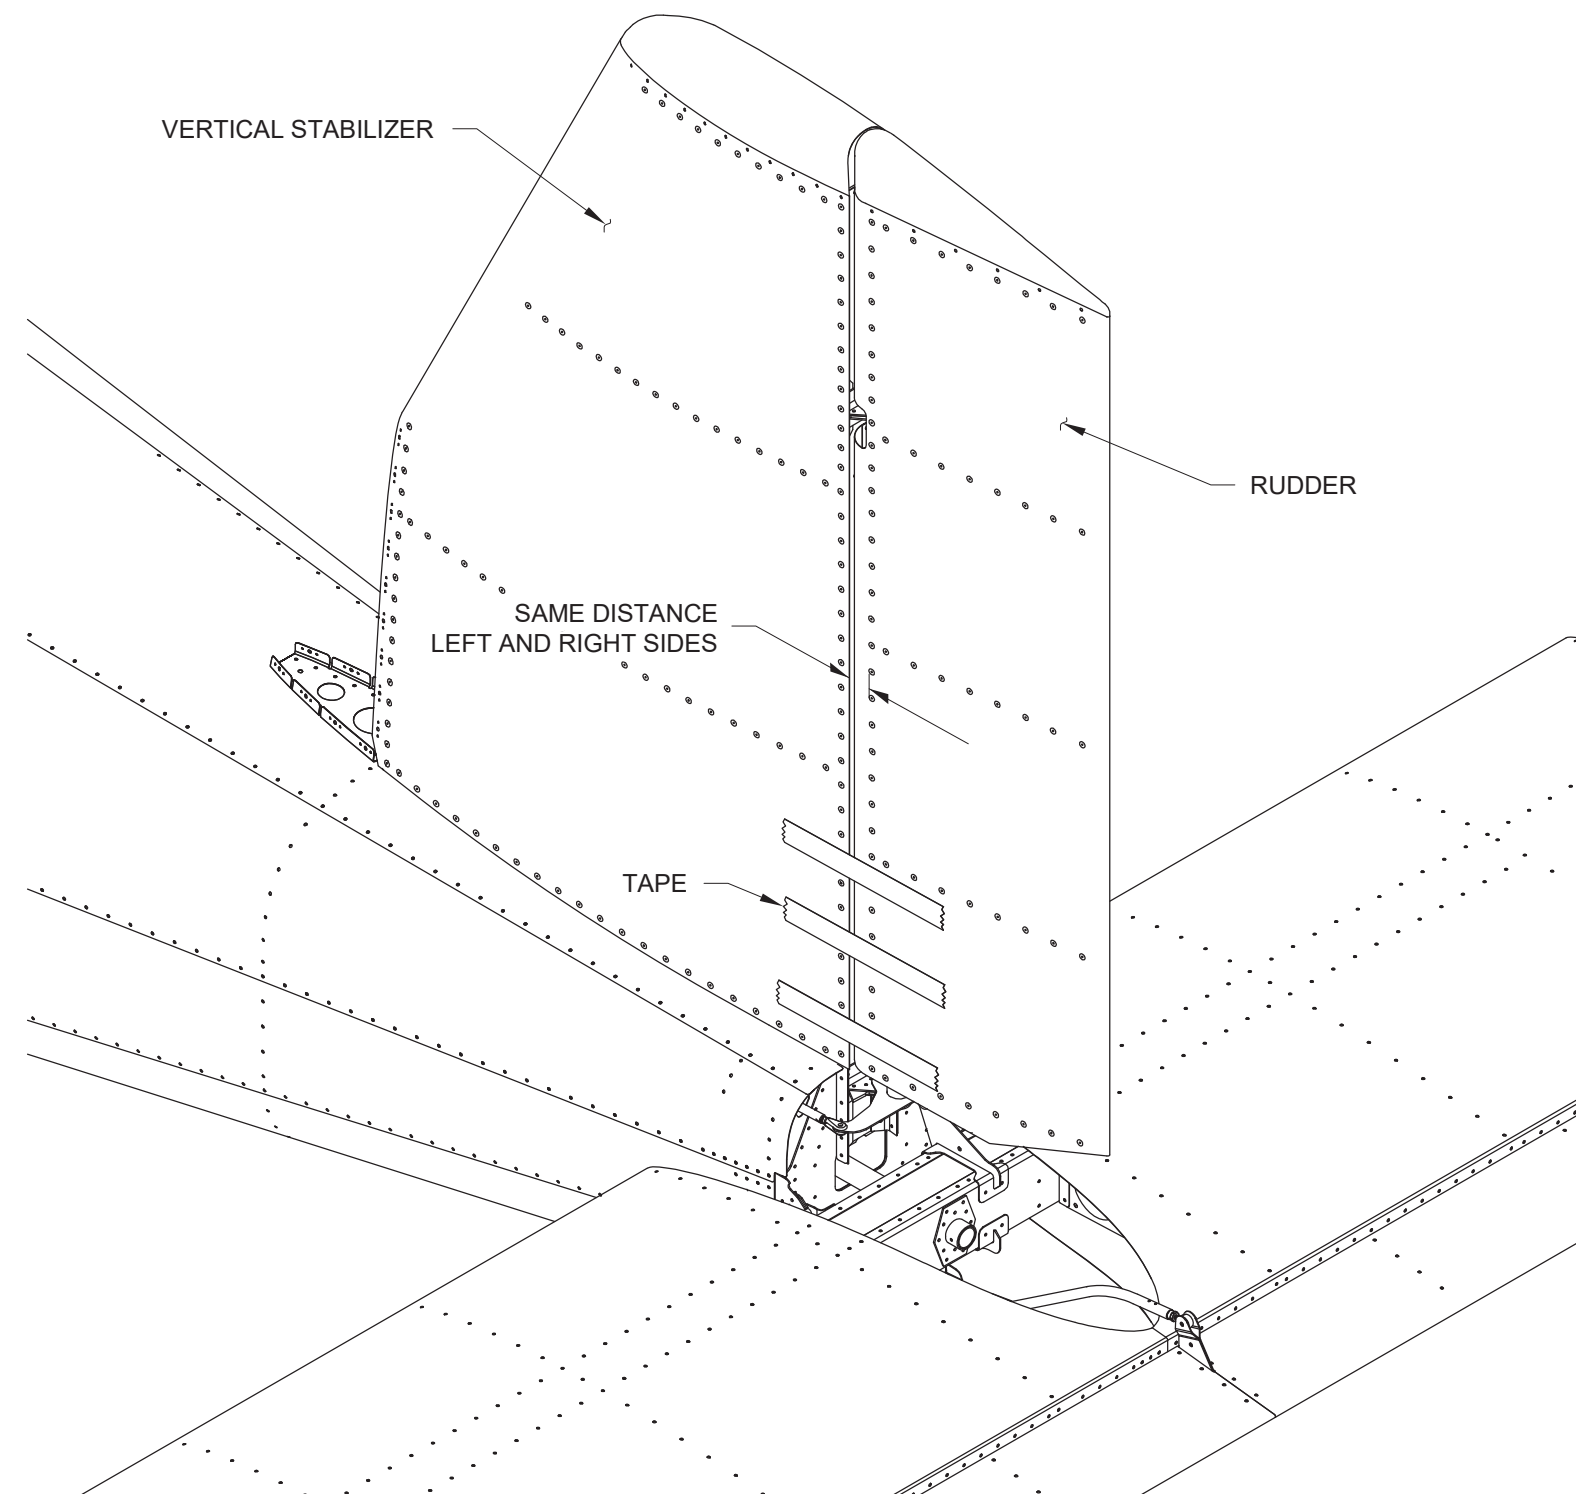
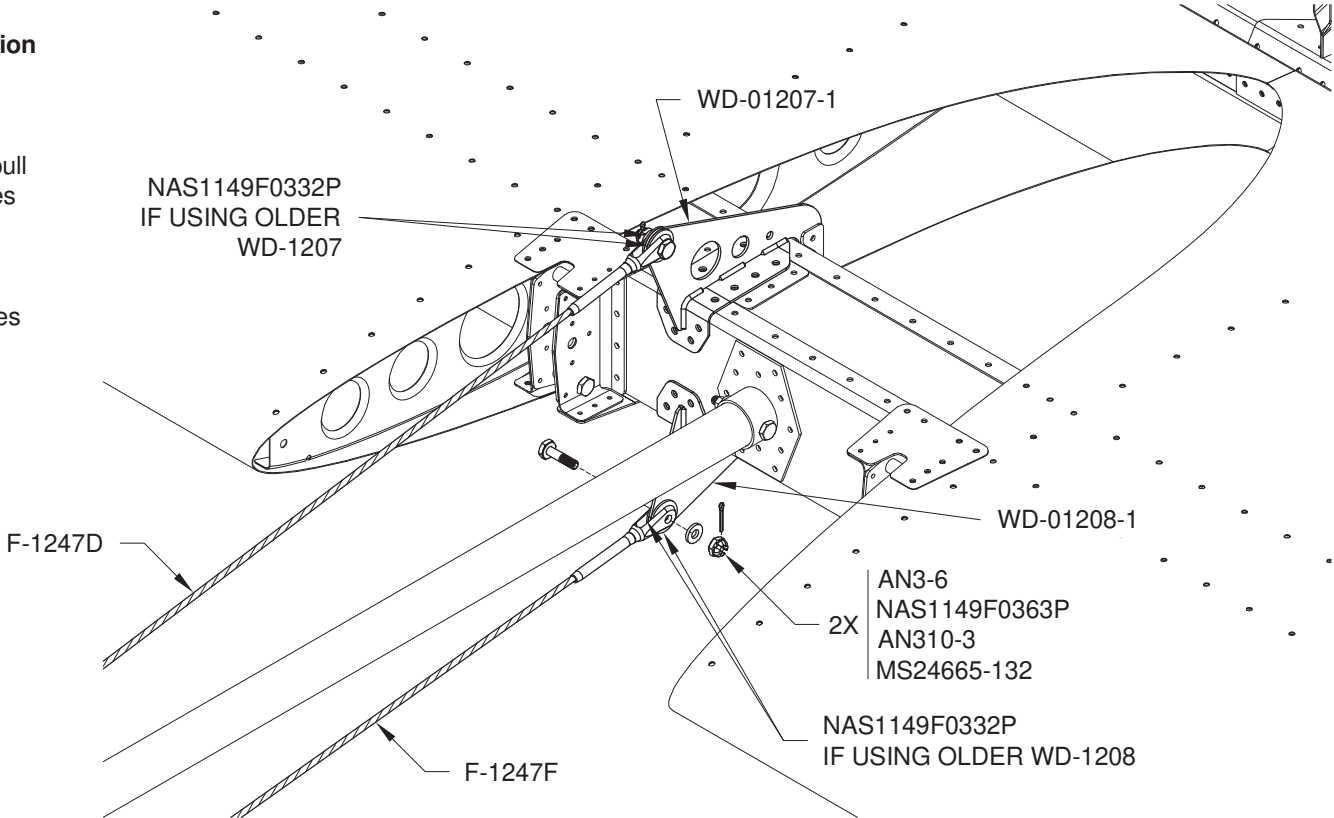

FIGURE 3: CENTERING THE RUDDER
FIGURE 1: CONNECTING THE STABILATOR CABLES
Step 4: Center the rudder. This can be verified by measuring the distances from the trailing edge of the vertical stabilizer skin to the line of rivets on the rudder shown in Figure 3. When this distance is the same for the left and right side, restrain the rudder by applying duct tape (masking tape if painted) across the gap between the vertical stabilizer and rudder as shown. Verify that the rudder has not moved while applying the tape.
Step 6: Attach the links to the rudder cables as shown in Figure 3. Rotate the arms of the WD-01206-1 so that the hole in the arms aligns with the bolt insertion hole in the F-01217-L & -R (see Figure 1), then attach the links to the arms.
Secure the ends of the stabilator cables to the WD-01207-1 and WD-01208-1 Stabilator Horns using the hardware called out in Figure 1.